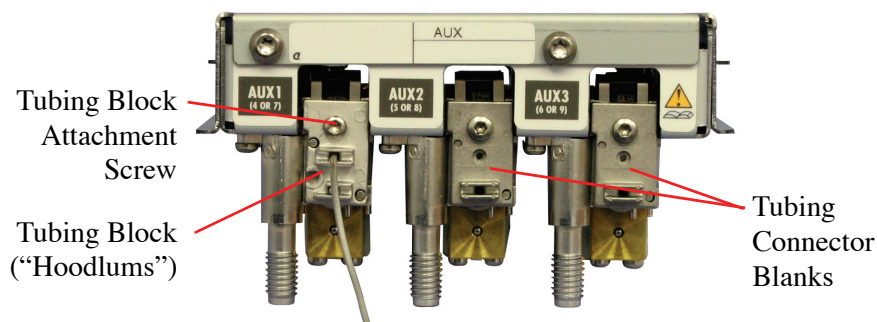

Figure 4.28. Aux EPC Module Tubing Connector Blanks
1. Remove the three tubing connector blanks (Figure 4.28) from the Aux EPC module to expose the O-rings and restrictors.
3. Attach the tubing blocks (hoodlum block assembly with integrated 1/16" stainless steel lines) to each of the three manifolds and tighten each screw (see Figure 4.28).